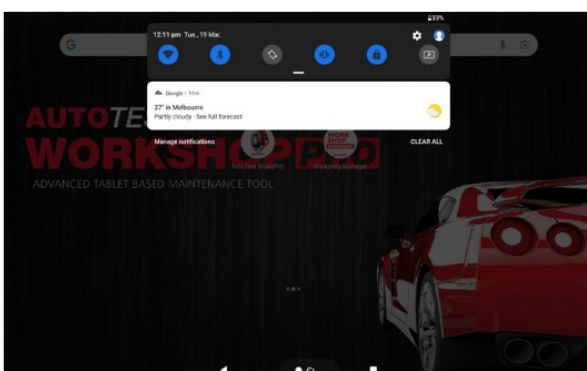

Figure 42
1. Swipe down from the top of the screen to show a quick view of the settings. (Figure 42)